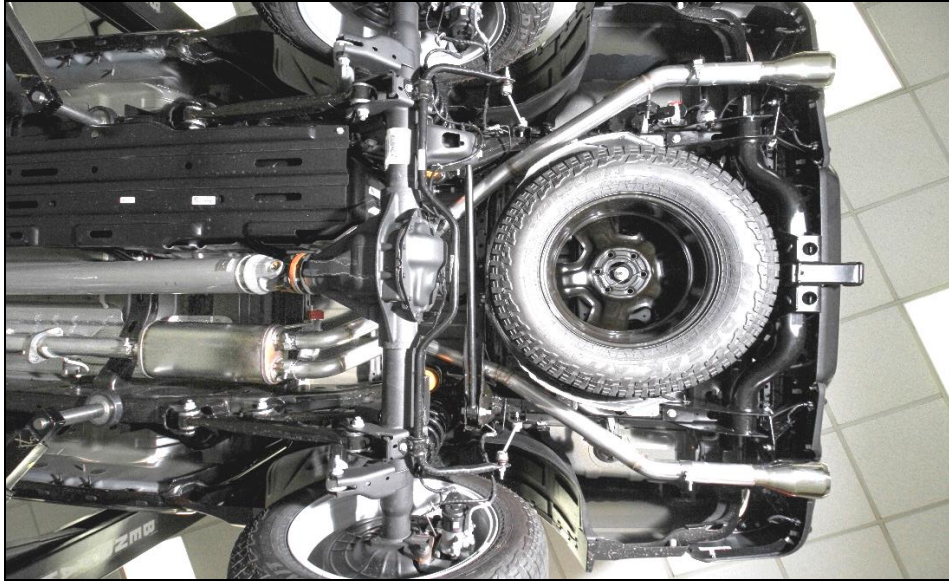

Figure 3
1. Install the flange pipe and muffler, using the supplied hardware and (x1) band clamp. Slide (x3) hangers into the OE rubber isolators (**Figure 3**). **NOTE: Reuse the OE 2 bolt gasket (replace if needed).**
2. Install the right and left over-axle pipes and slide in (x2) hangers in to the OE rubber isolators. Use the supplied (x3) band clamps (**Figure 3**).
3. Install the right and left tip assemblies. Use the supplied (x2) band clamps (**Figure 3**).
4. Line up the exhaust tips and tighten all hardware (**Figure 3**).